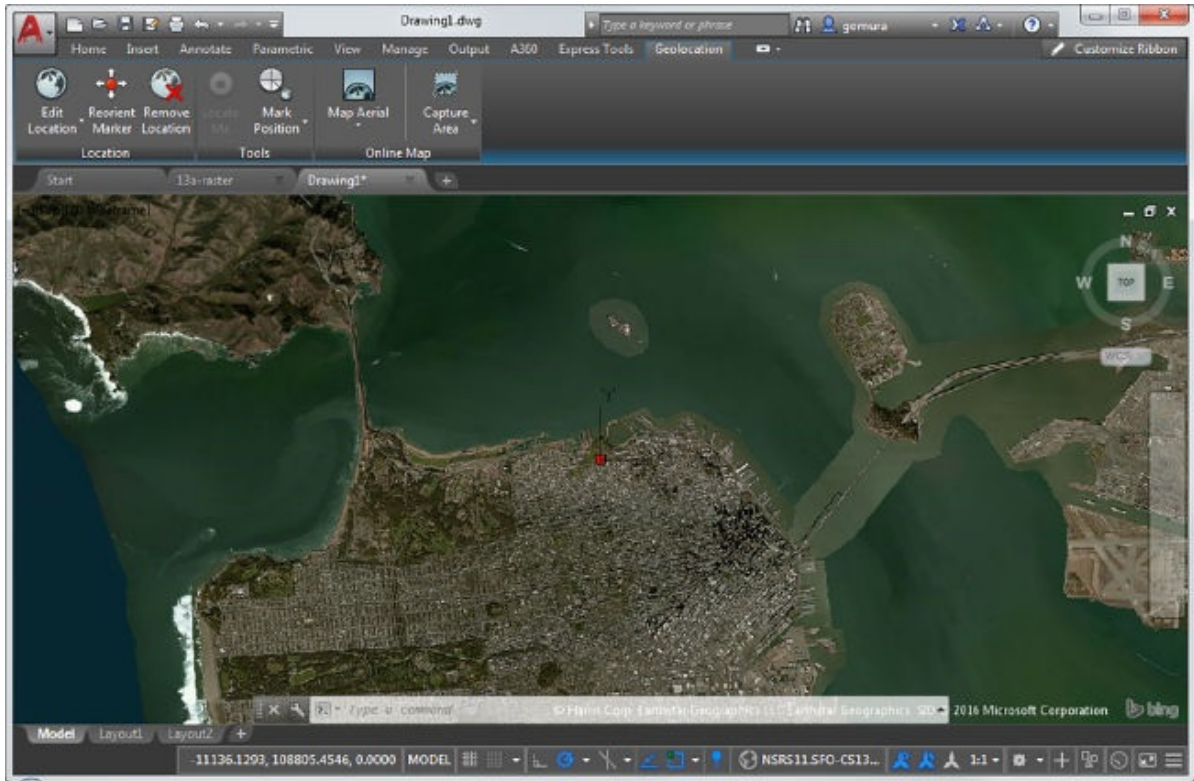

FIGURE 13.21 The drawing area with the Geographic Location aerial view
- Click a point directly above the first point that you selected to indicate a north direction pointing up. An aerial view of the northern tip of San Francisco appears (see Figure 13.21).